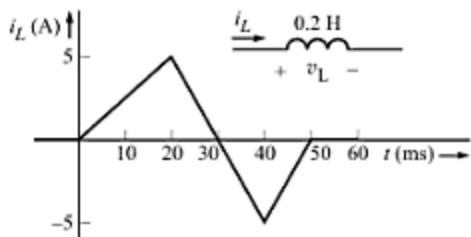

Fig. B-8
- B-36.** With reference to Fig. B-8, (a) find the value of time at which the inductor is absorbing the maximum power, (b) find the value at which it is supplying maximum power, and (c) find the energy stored in the inductor at  $t = 40$  ms.